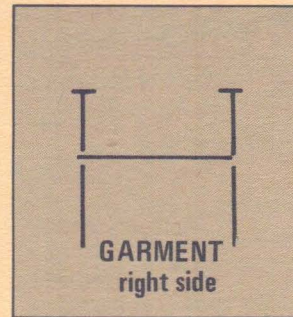

Figure 3
- Mark each end of the buttonhole with pins on wrong side of garment (Fig. 3).